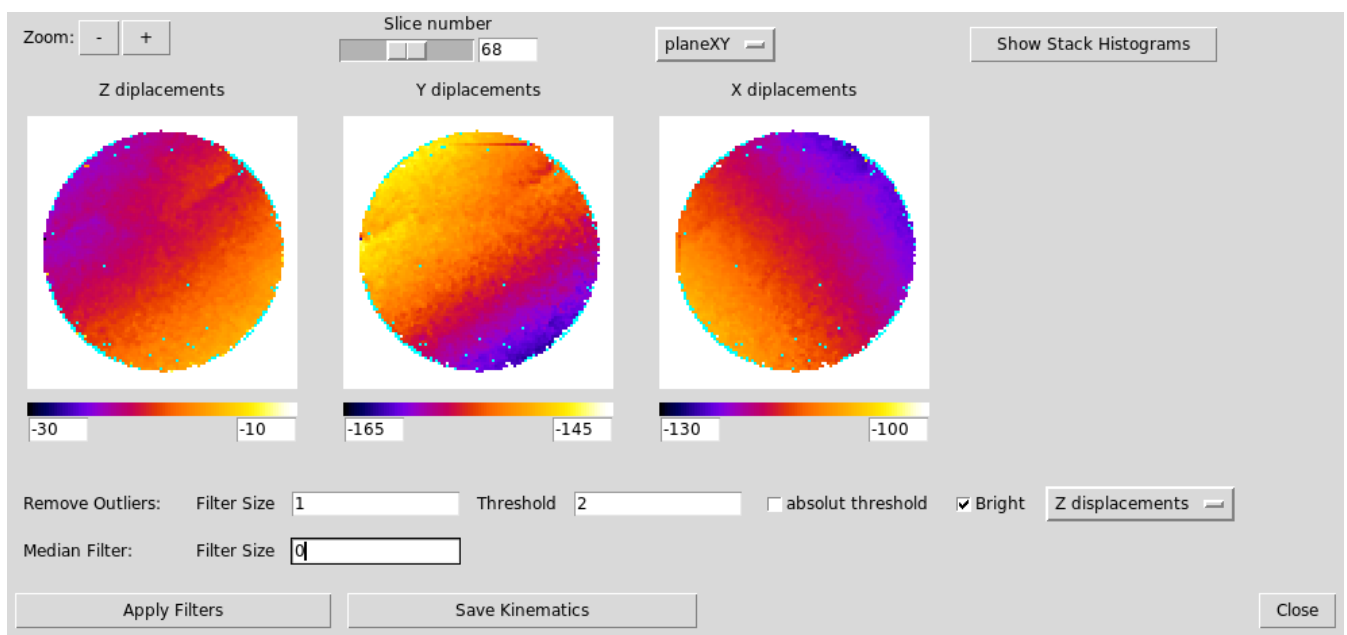

Figure 6.2: GUI - Post Process, show displacements window
**show displacements** this will open a new window previewing the displacements fields (see figure 6.2).